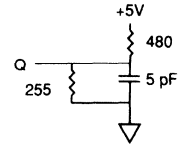

Fig. 2 OUTPUT LOAD EQUIVALENT
6. ^t_{HZCE} and ^t_{HZWE} are specified with CL = 5pF as in Fig. 2. Transition is measured ± 500mV from steady state voltage.